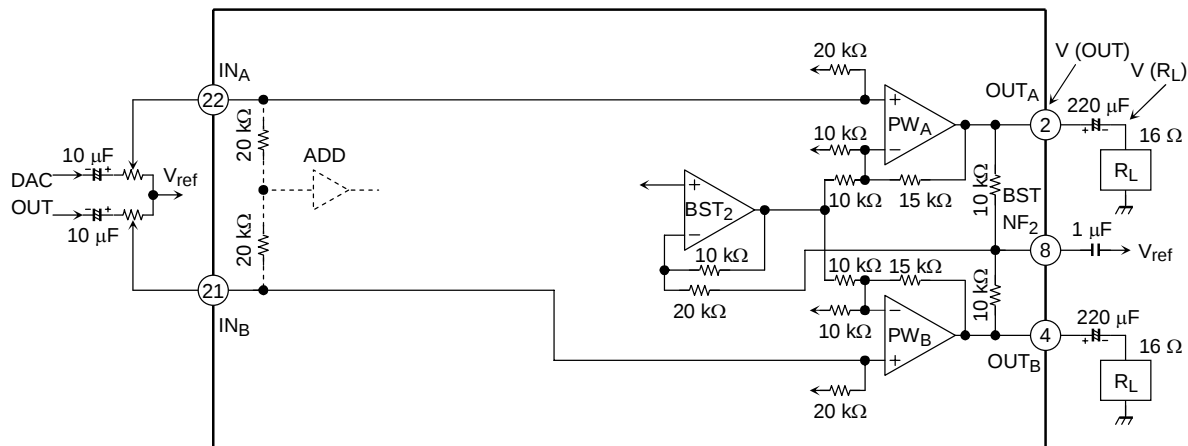
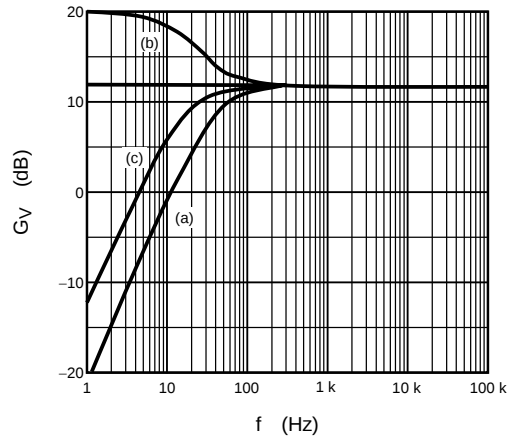

Figure 3 Low-Pass Compensation System Diagram
Figure 4 Power Amplifier Frequency Characteristics
Fig.3 shows the low-pass system diagram, and Fig.4 shows the frequency characteristics at each point. In Fig.4, (a) represents the status lost by the low-pass as a result of the high-pass filter comprising the headphone load ($R_L = 16\ \Omega$) and the output coupling capacitor ($220\ \mu\text{F}$) in the C-coupling system.
The low-pass component alone is extracted from the composite signal of PWA/PWB output, and that frequency signal is fed back to PWA/PWB once more via the inversion amplifier, thereby making it possible to increase the gain only of the low-pass component. The frequency characteristics of the power amplifier output V (OUT) in this state are shown in Fig.4 (b). In practice they are the frequency characteristics (c) viewed from load terminal V (RL), and the low-pass is compensated relative to the state in (a).